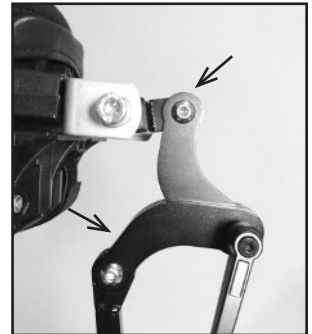

Fig. 86
1. Use 5mm Allen wrench to loosen the bolts and loosen the lever. Fig. 86